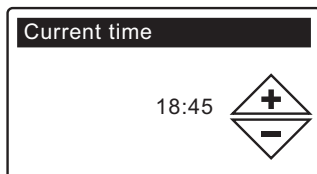

FIG. 20
- 3. CURRENT TIME** Press the DOWN ▼ or UP ▲ buttons to set the current time (See Figure 20). Hold the button down to rapidly advance.